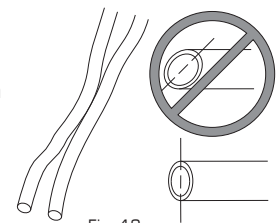

Fig. 12
3. If the tubing is too long, use a sharp knife to **cut** the tubes to the same length where they are **NOT BONDED TOGETHER**. Make sure the cut is straight to form a flat end on the tubes (Fig. 12).